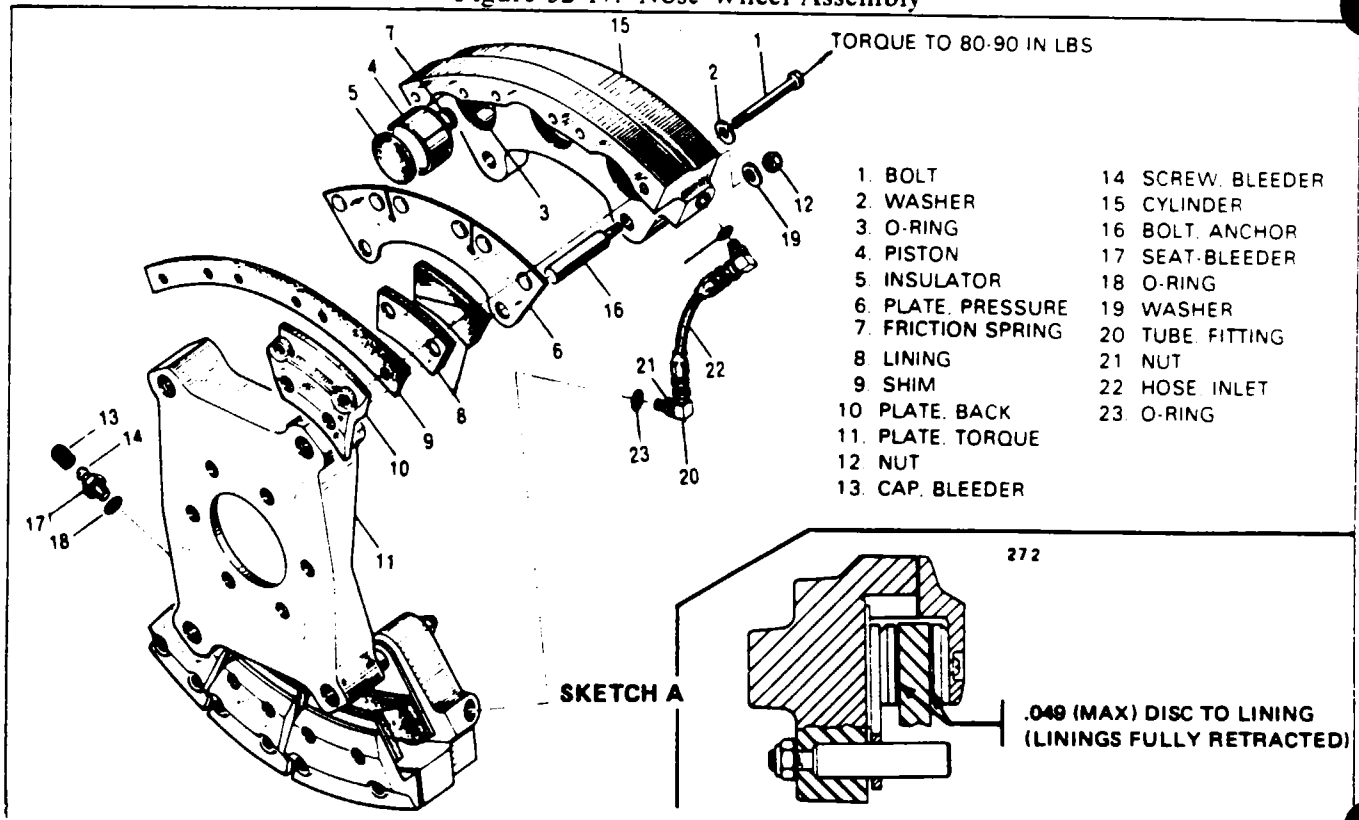

Figure 32-18. Wheel Brake Assembly (Cleveland 30-123)
REMOVAL AND DISASSEMBLY OF WHEEL BRAKE ASSEMBLY. (Refer to Figure 32-18.)
ASSEMBLY AND INSTALLATION OF WHEEL BRAKE ASSEMBLY. (Refer to Figure 32-18.)
2. Lubricate O-rings with fluid MIL-H-5606 and install. Slide the pistons in cylinder housing until flush with surface of the housing. For pistons with friction rings (see Figure 32-18) check pilot bores and chamfers for burrs and nicks, remove before installing piston. Place piston in bore, rotate to seat friction ring and lightly tap into place. If piston does not seat, alternately tap and rotate. If considerable effort is required, remove piston and inspect pilot bore and piston tail for damage. Rework, if necessary and repeat above procedure.
7. With brake line disconnected, push the linings as far apart as possible. In this position there should not be excessive drag or the tolerance between the disc and lining should not be greater than noted on Sketch A of Figure 32-18. Assemblies falling outside the limits noted should be removed and rechecked for lining and brake disc minimum thickness. The wheel should rotate freely, if binding occurs, check axle nut to insure proper seating. If rubbing occurs, check back plate assembly and pressure plate assembly linings to be sure that linings are fully seated.